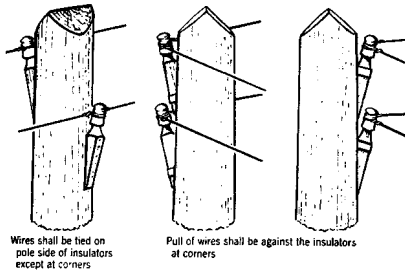

Figure 3. Placement of Wires on Bracket-Mounted Insulators.
- 3.01 On bracket lines, place the wires on the side of the insulators toward the pole. If insulators are on the outside of a corner, tie the wires so they will pull against the insulators (Figure 3).